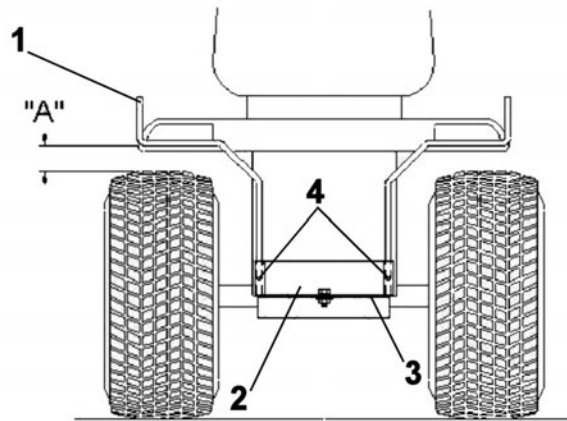

Figure 2
**NOTE:** If you have a Berco counterweight kit installed on the back on the tractor, it is not necessary to install the tow hitch support (item 2) (except if the 700240 is installed). The rear support rods (item 1) of the cab will be inserted into the tubes welded to the right and left support plates of the counterweight kit.
Insert the rear support rods (fig.2, item 1), the longest end into tow hitch support (item 2). Install the tow hitch support on top of the tractor tow hitch (item 3) with a 1/2 x 1 1/2" hex bolt and two flat washers (one on top and the other under the tow hitch), lockwasher and nut. The support must be completely flat against the back of the tow hitch.
Adjust the horizontal section of the rear rod support (fig.2, item A). So it is located 1/8" below the mud guard and 1" behind the mud guard.
Once installation is complete, adjust the cab by pulling the rear support rods (fig.2, item 1) toward the back to achieve a snug fit.